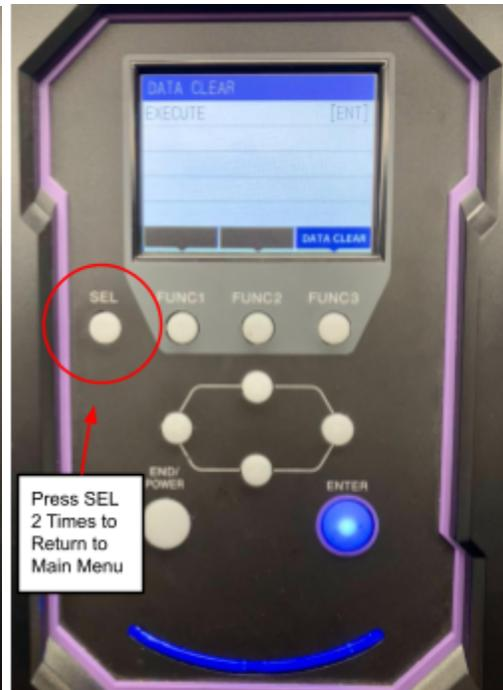

Fig 6. Navigate Back to Main Menu
- To execute a **DATA CLEAR**, press the ENTER button (Fig 5). Return to the main menu by pressing SEL 2 times (Fig 6).